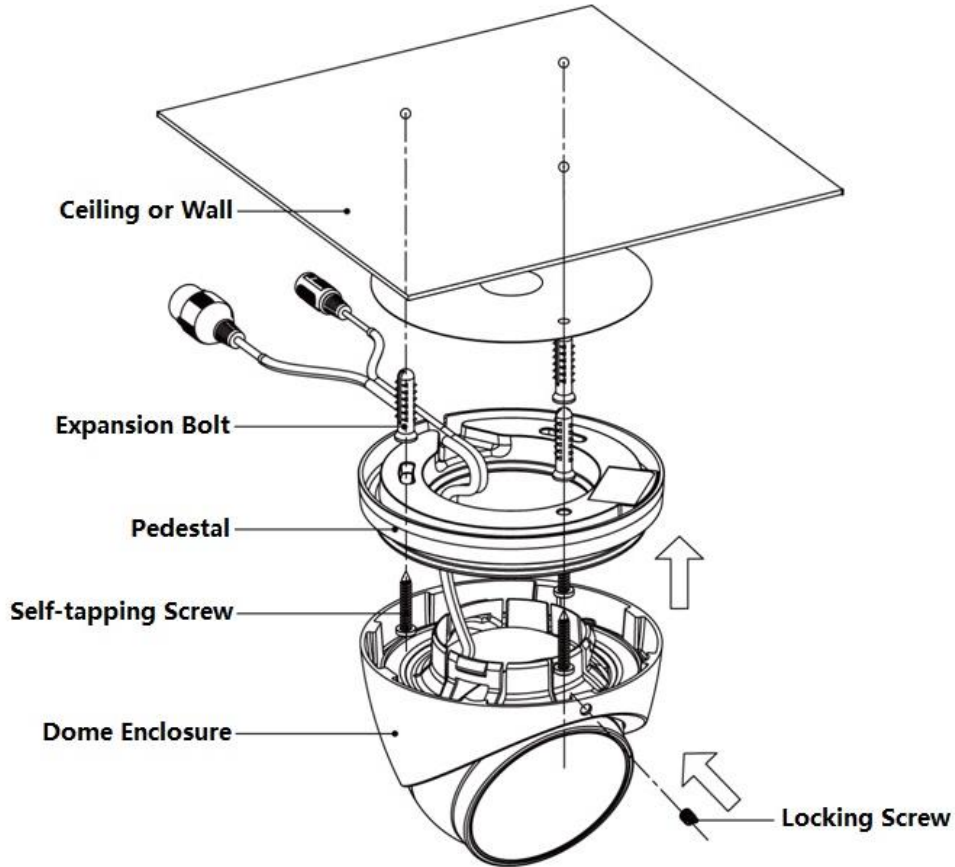

Figure 2-2 (b)
- For the device shown in Figure 2-2 (b), loosen the locking screw, pull the enclosure downward, and then disassemble the device.